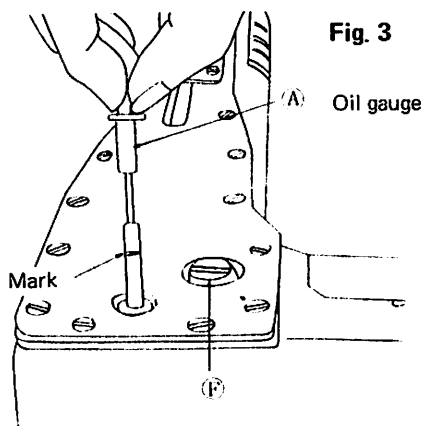

Fig. 3
3. Remove the oil gauge (A) in Fig. 3 and fill the tank with 150 cc of oil, which will give the level up to the mark on the gauge. The oil in tank should be checked at least twice a week and kept up to the mark on the gauge.